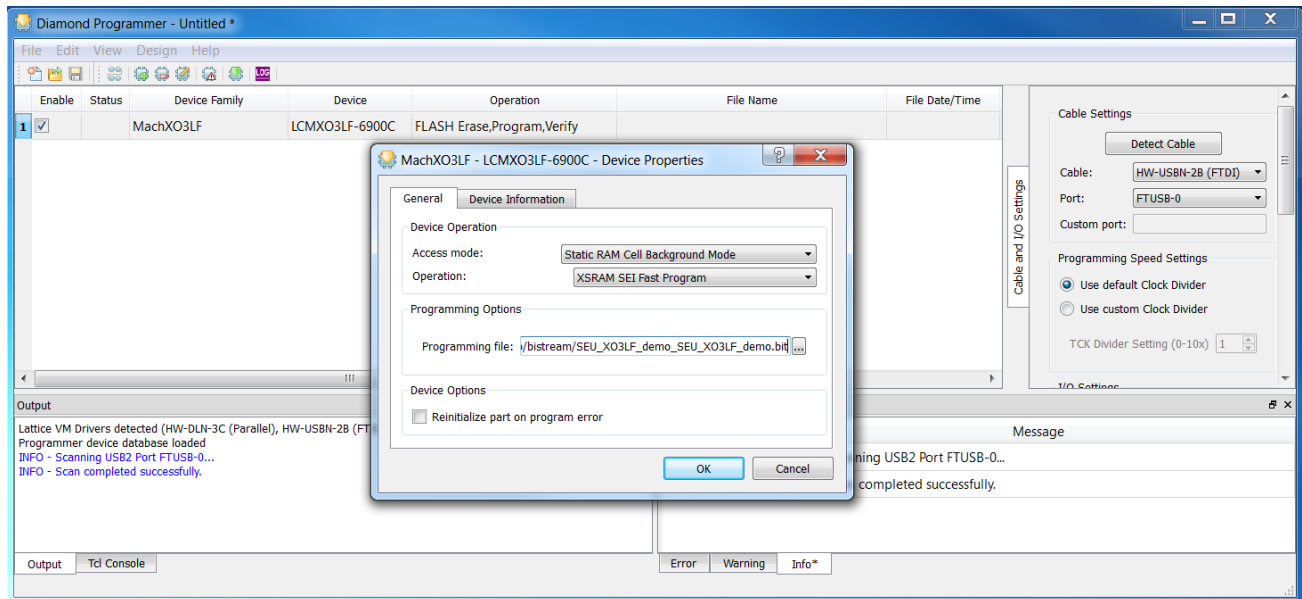

Figure 8.12. Background Programming File Loading
3. Select *Static RAM Cell Background Mode* from the **Access mode** dropdown list, and *XSRAM SEI Fast Program* from the **Operation** dropdown list as shown in Figure 8.12.